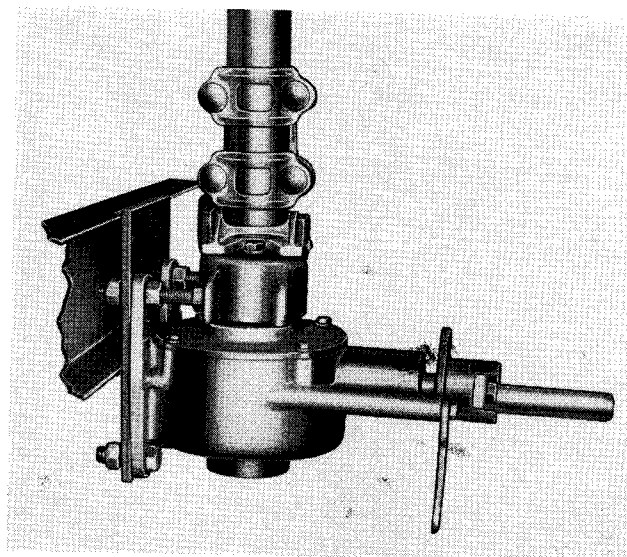
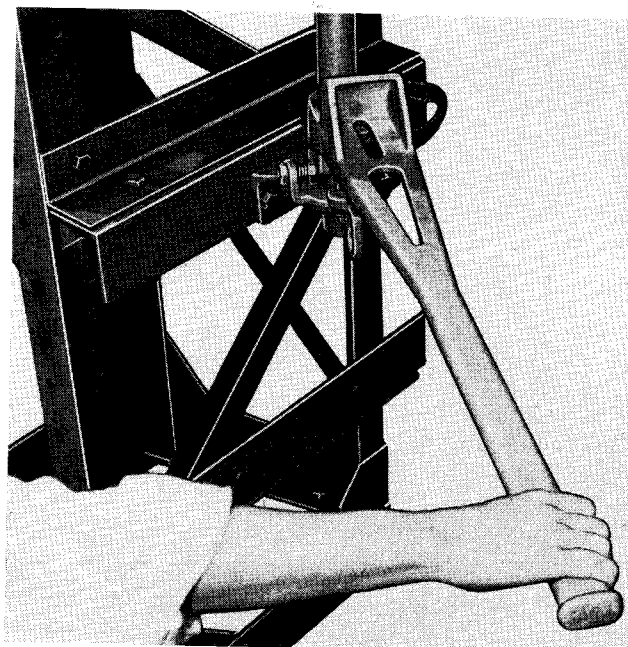
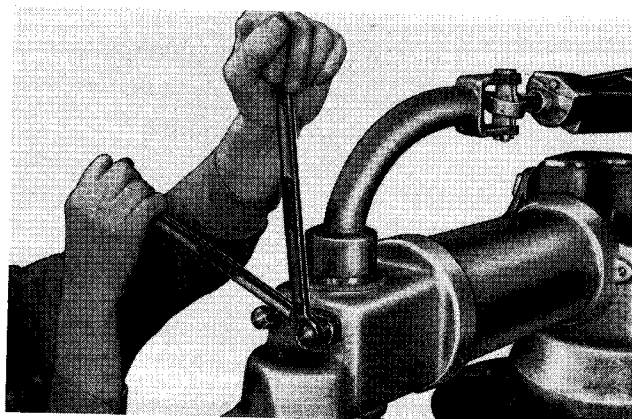

FIG. 12.
FIG. 13.
FIG. 14.
(7) The driven pole unit can now be operated with the handle at ground level. Set the stops on the handle for the open and closed positions. See Fig. 12 or Fig. 13 for details of "Stops" on the operating handles.
(8) Position all three pole units in the fully open position. With all pole units open, connect the interphase pipes. Tighten the clamping bolts on the rod ends but do not sink the set screws at this time.
(9) The complete switch should now be operated by means of the handle at ground level. The three blades should open to a vertical position against the stops. When the switch closes, the blades should enter the jaws and rotate to a final position within plus or minus 5 degrees from horizontal. If necessary, make small changes in the effective pipe lengths to achieve proper operation.
(10) With the pole units all closed, screw in the closed position pole unit stops until they are firmly seated. See Fig. 14 for location of these stops.
(11) Tighten down the set screws in all rod ends.